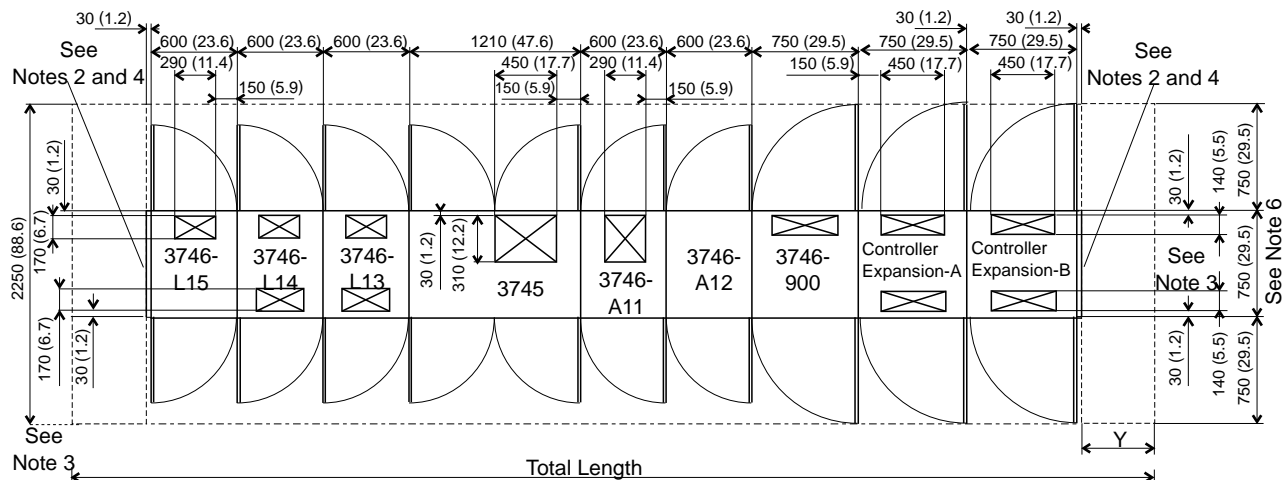
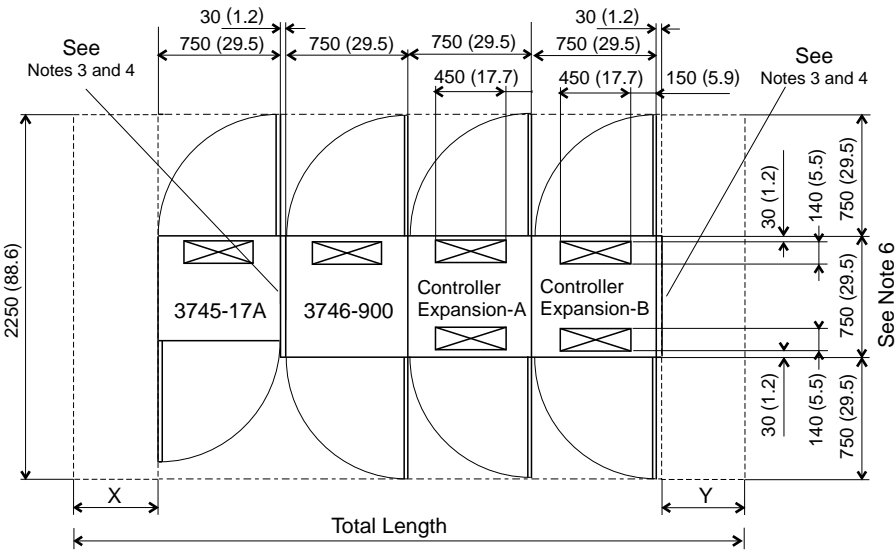

Figure 1-3. Plan View of a 3745-X1A/3746/3746-900/Controller Expansion Configuration
Figure 1-5. Plan View of the 3745 17A/3746-900/Controller Expansion
- Step 8. ____ Make sure that the installation area is in accordance with Figure 1-3 on page 1-8, or with Figure 1-5 on page 1-9. If not, inform the customer.